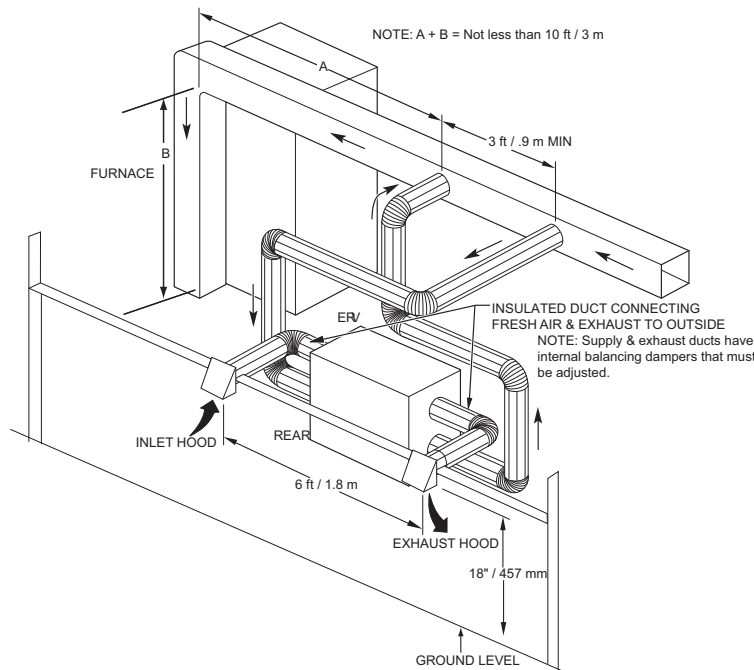

Fig. 6 – Exhaust Ventilation
Most ERV/HRV applications will be installed in conjunction with new or existing forced-air system. To operate properly, the fresh-air supply and stale-air return from ERV/HRV connect directly to return-air duct system. This is how the ERV/HRV distributes fresh air and removes stale air from inside of building. See Fig. 6. For these installations, furnace or fan coil blower must be interlocked and operate continuously whenever ERV/HRV is energized. See Fig. 18 for interlock wiring detail.
**NOTE:** The fresh air from ERV/HRV is introduced into return-air duct at a point no less than 6 ft (1.8m) upstream of furnace or fan coil. This connection should be direct. See Fig. 6. This is to allow incoming fresh-air to mix before entering indoor equipment.
Fresh-air intake and stale-air exhaust must be separated by at least 6 ft (1.8m). Fresh-air intake must be positioned at least 10 ft (3m) from nearest dryer vent, furnace exhaust, driveway, gas meter, or oil fill pipe. Fresh-air intake must be positioned as far as possible from garbage containers and potential chemical fumes. When possible, it is advised to locate the intake and exhaust hoods on same side of house or building. The intake and exhaust hoods should never be located on interior corners or in dead air pockets. See Fig. 6. Both intake and exhaust hoods must be 18-in (457mm) from ground and at least 12-in (305mm) above anticipated snow level.